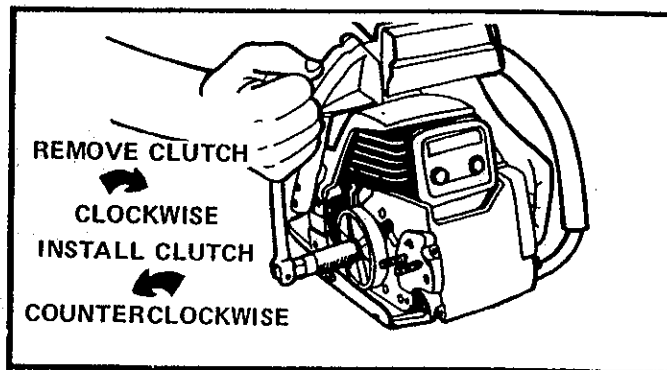

Figure 50
5. Remove the clutch with a 3/4" socket or end wrench in a *clockwise* direction. Figure 50 .
7. Install clutch in a *counterclockwise* direction. Figure 50 .